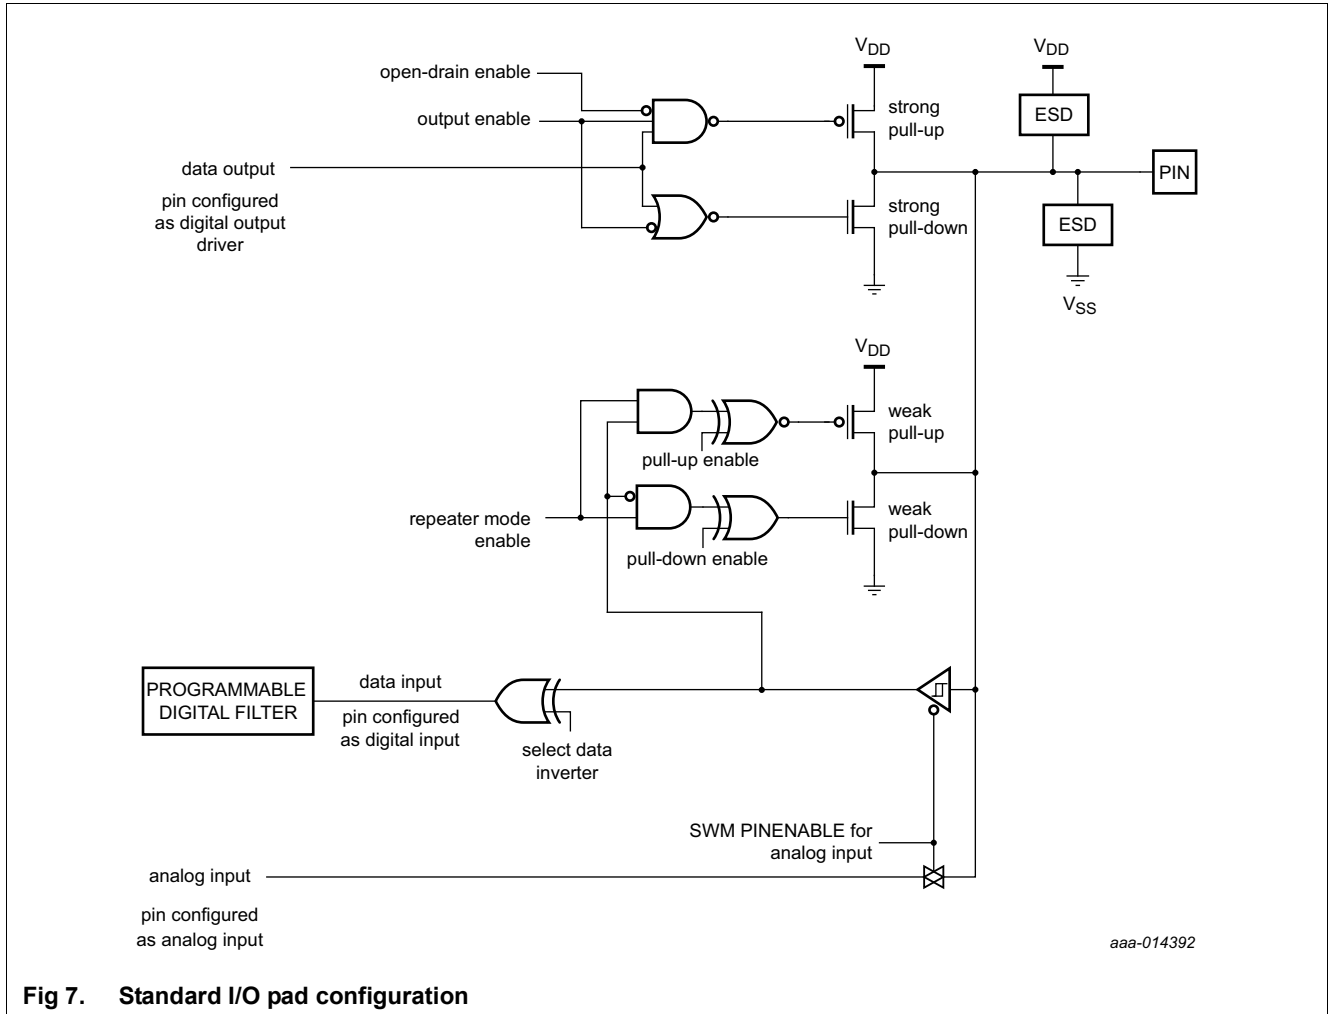

Fig 7. Standard I/O pad configuration
- Pull-up/pull-down configuration, repeater, and open-drain modes can be programmed through the IOCON block for each GPIO pin (see Figure 7).